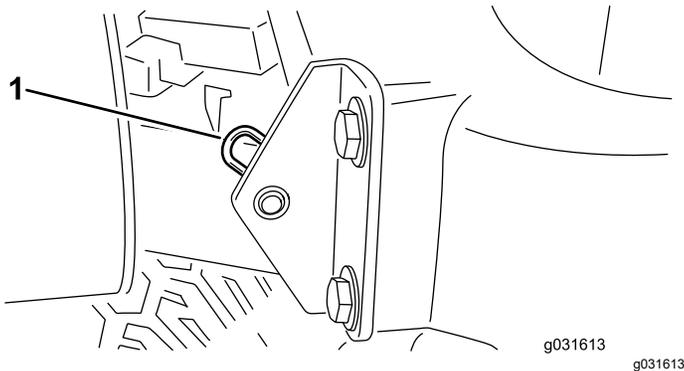

Figure 26
2. Remove the hairpin cotter securing the hood pivot to the mounting brackets (Figure 26).